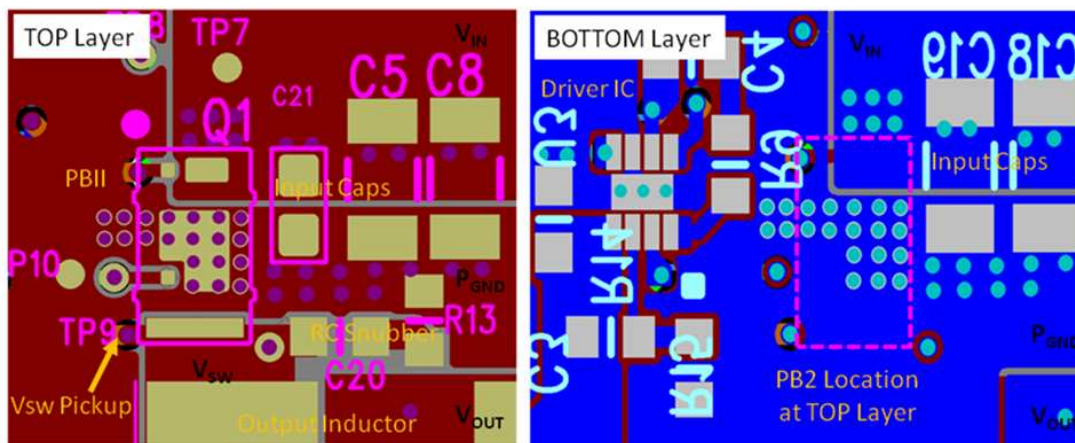

Figure 29. Recommended PCB Layout (Top Down View)
- The placement of the input capacitors relative to VIN and PGND pins of CSD87588N device should have the highest priority during the component placement routine. It is critical to minimize these node lengths. As such, ceramic input capacitors need to be placed as close as possible to the VIN and PGND pins (see Figure 29). The example in Figure 29 uses 1 x 10 nF 0402 25 V and 4 x 10 μF 1206 25 V ceramic capacitors (TDK part number C3216X5R1C106KT or equivalent). Notice there are ceramic capacitors on both sides of the board with an appropriate amount of vias interconnecting both layers. In terms of priority of placement next to the Power Stage C21, C5, C8, C19, and C18 should follow in order.
- The switching node of the output inductor should be placed relatively close to the Power Block II CSD87588N VSW pins. Minimizing the VSW node length between these two components will reduce the PCB conduction losses and actually reduce the switching noise level. See Figure 29. (1)
- Use the smallest drill size allowed in your design. The example in Figure 29 uses vias with a 10 mil drill hole and a 16 mil capture pad.